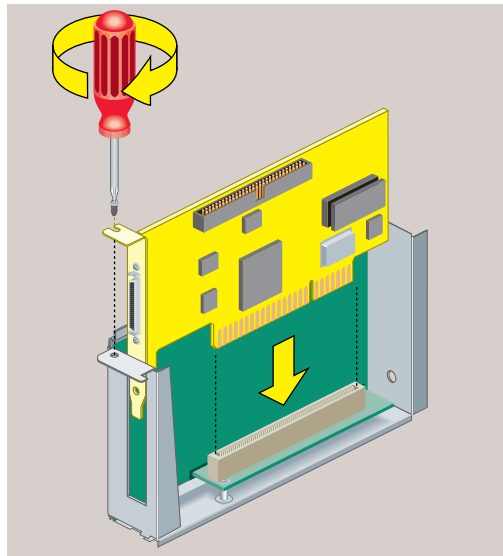

Figure 2-16 Installing the PCI Board
5. Slide the PCI board into the tray and push the PCI connector firmly into the slot (Figure 2-16). Make sure it is completely seated.
6. Replace the screw and tighten it (Figure 2-16).